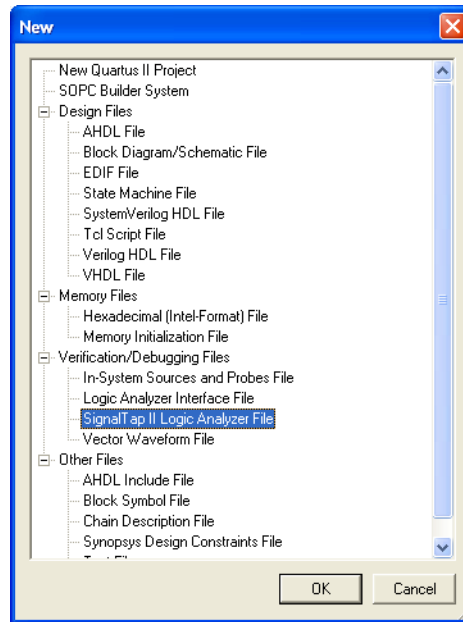

Figure 2. Need to prepare a new file.
1. Open the SignalTap II window by selecting **File > New**, which gives the window shown in Figure 2. Choose **SignalTap II Logic Analyzer File** and click **OK**.